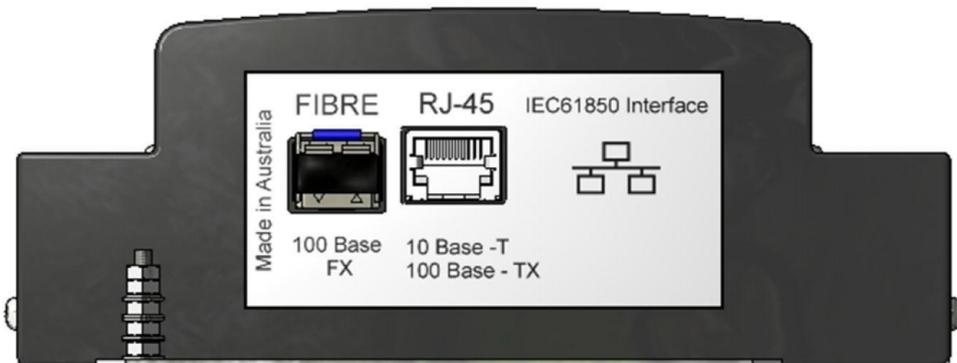

Figure 19: RA24 RJ45 & FO ports
- Figure 19: RA24 RJ45 & FO ports 15